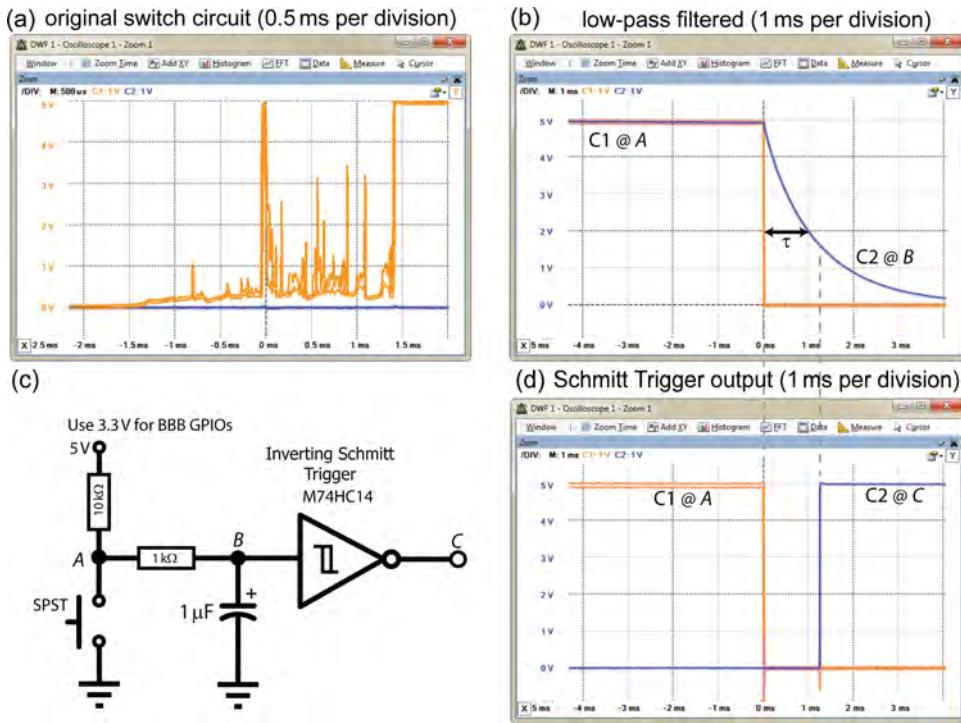

Figure 4-20: (a) Switch bouncing with no components other than the switch and 10kΩ resistor
Figure 4-20(a) illustrates the problem in action using the rising/falling-edge trigger condition of the Analog Discovery Oscilloscope. A momentary push button is placed in a simple series circuit with a $10\text{k}\Omega$ resistor and the voltage is measured across the resistor. When the switch hits the contact, the output is suddenly high, but the switch then bounces back from the contact and the voltage falls down again. After about 2–3ms (or longer) it has almost fully settled. Unfortunately, this small bounce can lead to false inputs to a digital circuit. For example, if the threshold were 3V, this may be read in as 101010101.
- A low-pass filter can be added in the form of a resistor-capacitor circuit as illustrated in Figure 4-20(c) using a $1\mu\text{F}$ capacitor. Unfortunately this leads to delay in the input. If you examine the time base, it takes about 2ms before the input reaches 1V. Also, bounce conditions can delay this further. These values are chosen using the *RC time constant* $\tau = R \times C$, so $\tau (\text{s}) = 1,000\Omega \times 10^{-6}\text{F} = 1\text{ms}$, which is the time taken to charge a capacitor to $\sim 63.2\%$ or discharge it to $\sim 36.8\%$. This value is marked on Figure 4-20(b).
- For momentary push button switches (SPSTs), a Schmitt trigger (74HC14N), which is discussed in the next section, can be used with an RC low-pass filter as in Figure 4-20(c).
The Schmitt trigger in Figure 4-20(c) exhibits the same type of behavior. The V_{T+} for the M74HC14 Schmitt trigger is 2.9V and the V_{T-} is 0.93V when running at a 5V input, which means that a rising input voltage has to reach 2.9V before the output changes high, and a falling input voltage has to drop to 0.93V before the output changes low. Any bounce in the signal within this range is simply ignored. The low-pass filter reduces the possibility of high-frequency bounces. The response is presented in Figure 4-20(d). Note that the time base is 1ms per division, illustrating how “clean” the output signal is. The configuration uses a pull-up resistor, the need for which is discussed shortly.